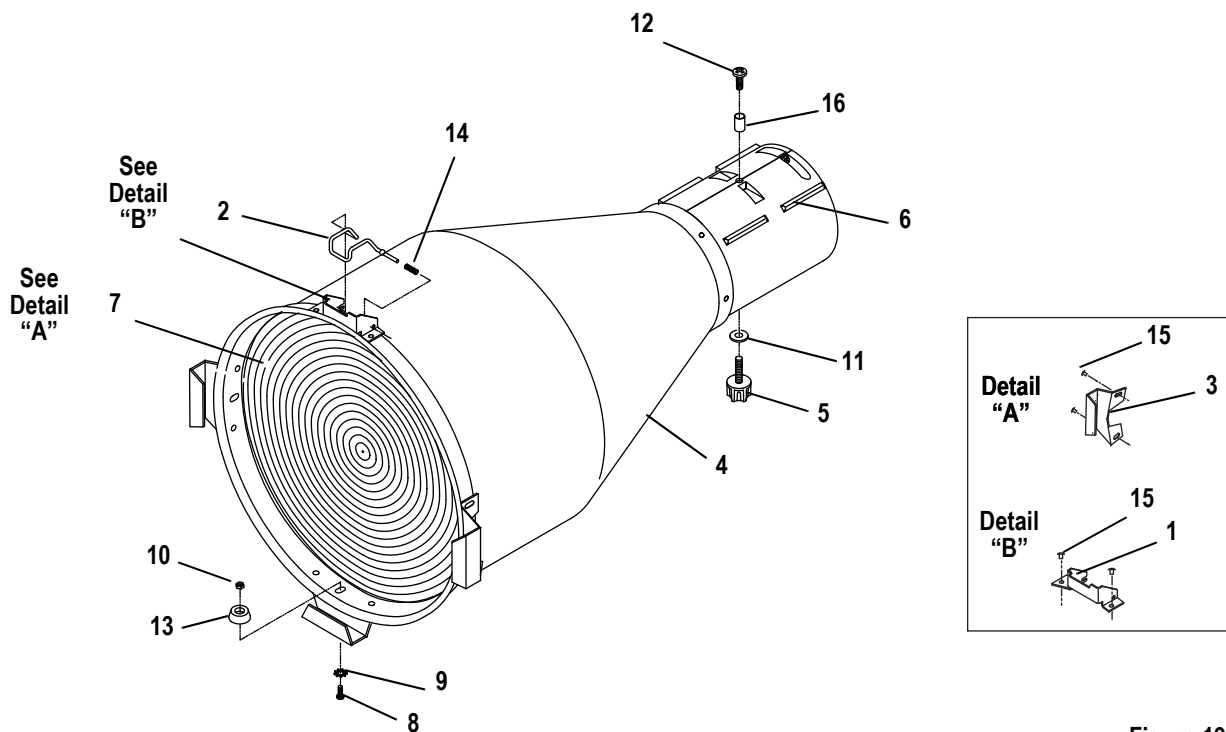
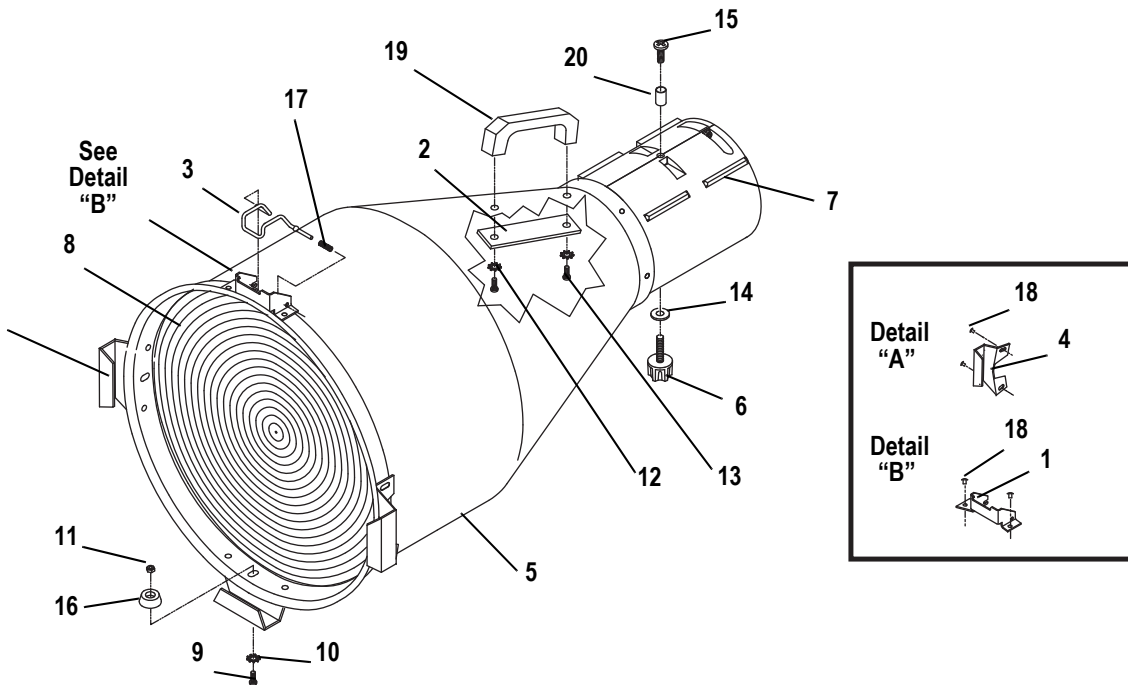

Figure 19
Figure 20
- Step 1: Place the lens tube assembly (5) on your work surface. Align the assembly so that the colorframe grooves are to your left.
- Step 2: If you are assembling a 5° tube, attach the handle (19) as shown in Figure 20, using the screws (13), washers (12) and backing plate (2).
- Step 3: Install the required lens as shown in Figure 19 or Figure 20 in the tube using required bumpers (16), screws (9), nuts (11), and washers (10). The side of the lens with the fresnel grooves should face the front of the tube. The smooth side should face the rear.